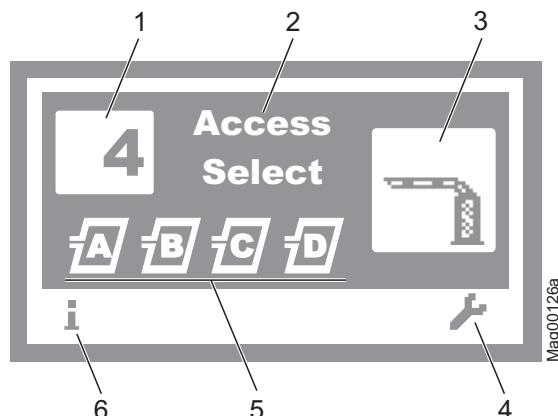

Fig. 15: Example "Operational view"
1. The operating view is displayed. → Refer to page 24, Fig. 15.